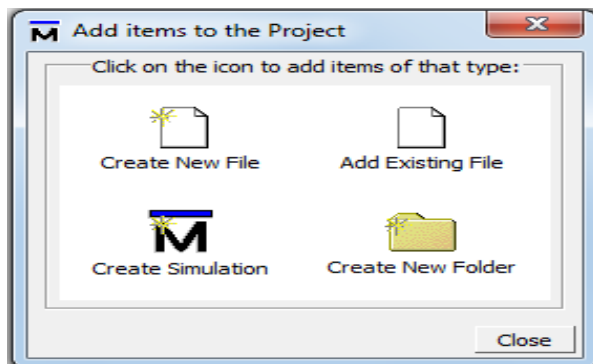

Figure 4.2 Add items to the Project window
- 3) After giving a project name the following window (figure 4.2) will appear and since we already have the Verilog code files, click on 'Add Existing File' option.